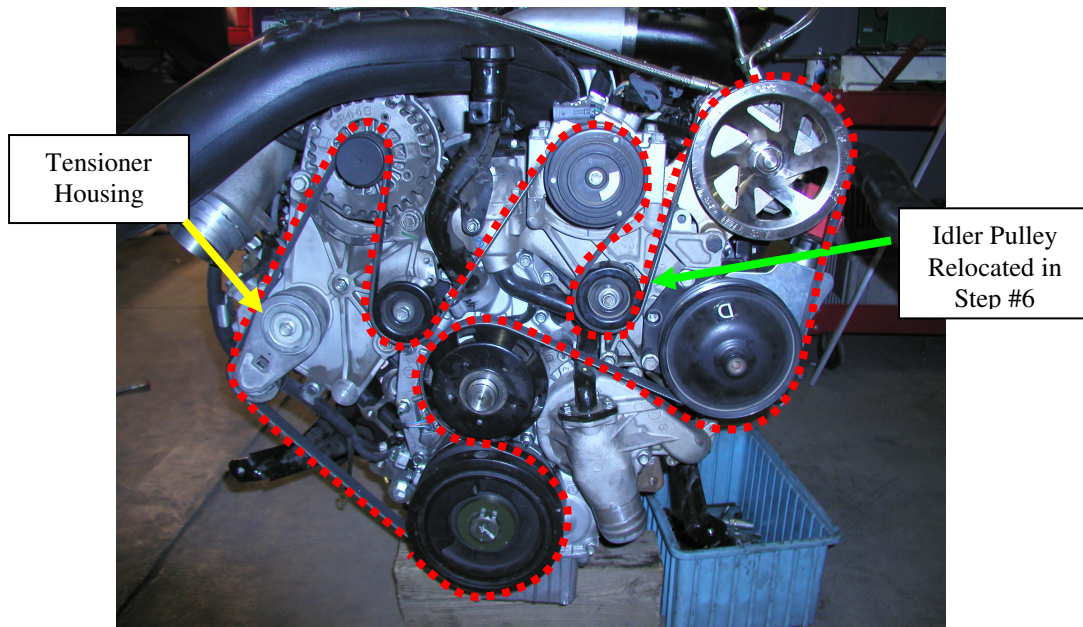

Figure 23: Belt Routing for ATS Twin CP3 Kit
30. Install the belt provided in the kit using the routing shown in Figure 23.